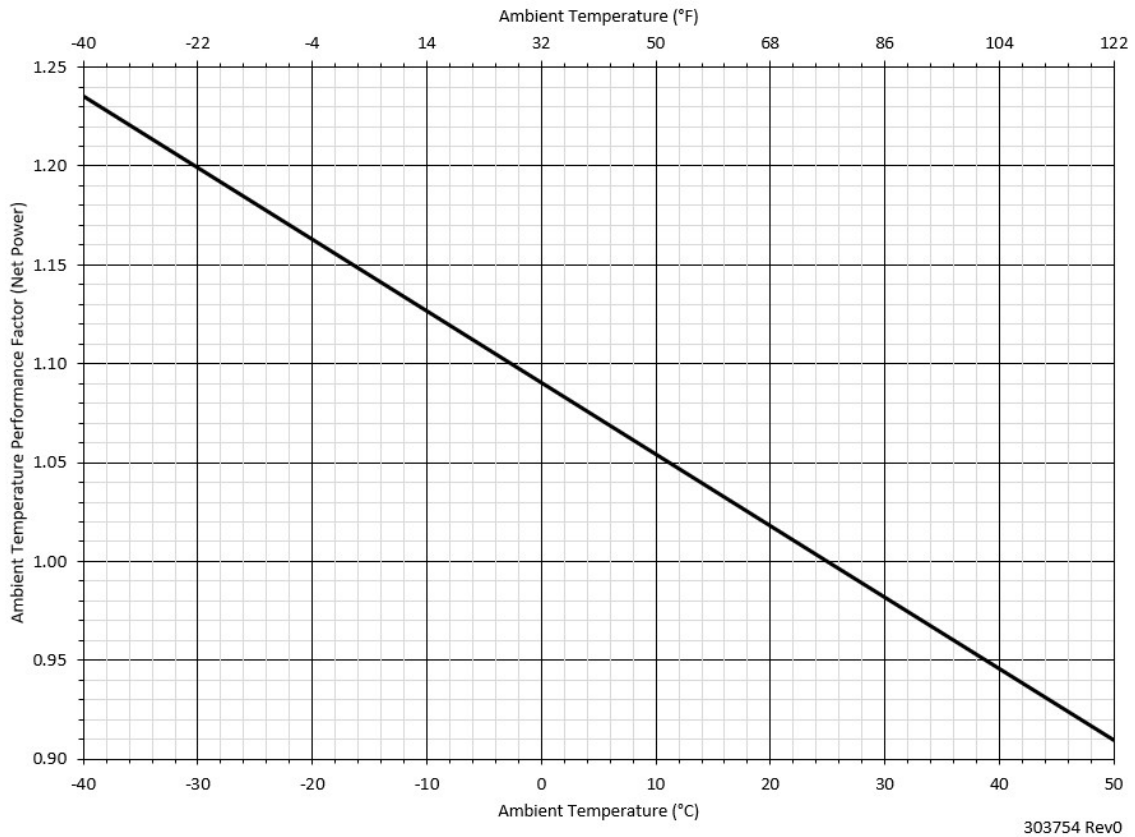
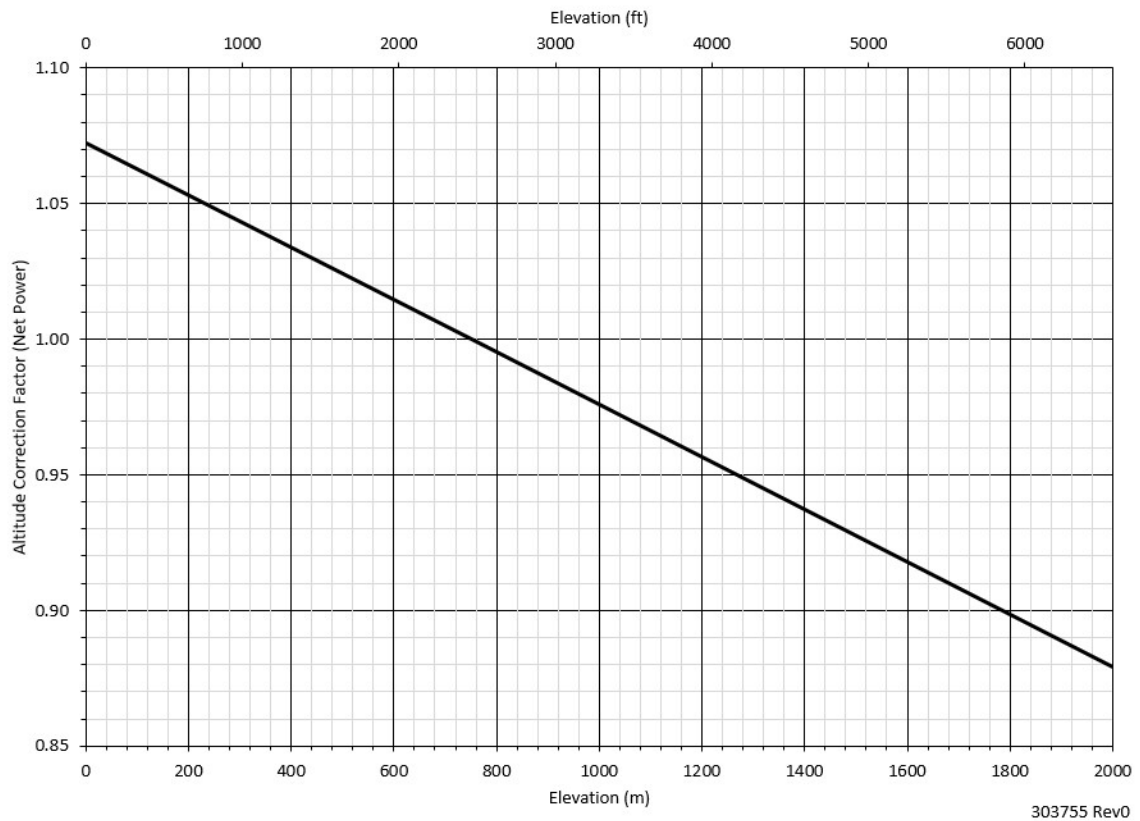

Figure 22 – Net Power Ambient Temperature Correction Factor
Figure 23 – Net Power Altitude Correction Factor
1. Determine correction factors for the site as described in Section 4.1, but use Figure 22 and Figure 23, based on worst case (highest) ambient temperature expected and altitude. For example, peak summer temperatures are expected to be 30°C [86F], worst case temperature correction factor = 0.98. Combine this factor with your altitude factor by multiplying the 2 factor values.